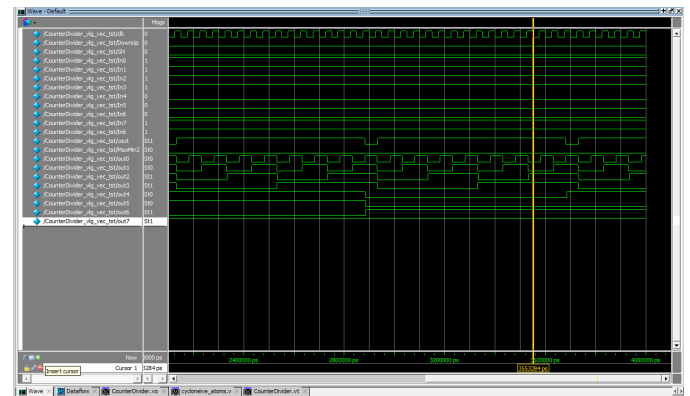

Figure 16
- A clearer picture of Figure16 exists in Project/Part3/Section2 folder.